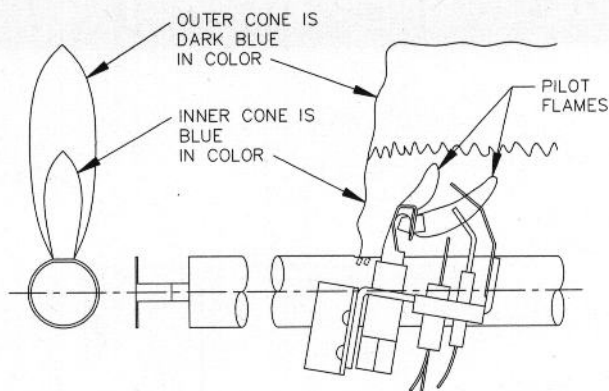

Figure 9.1: Intermittent Pilot and Main Burner Flame
3. Check the pilot and main burner flame. See Figure 9.1. The pilot should provide a steady flame enveloping $\frac{3}{8}$ " to $\frac{1}{2}$ " (1 cm to 1.2 cm) of the flame sensor. If required, adjust the pilot as stated in the gas valve manufacturer's instructions. The main burner flame inner cone should be approximately $1\frac{1}{2}$ " (4 cm) high and should have a very sharp, blue color characteristic.